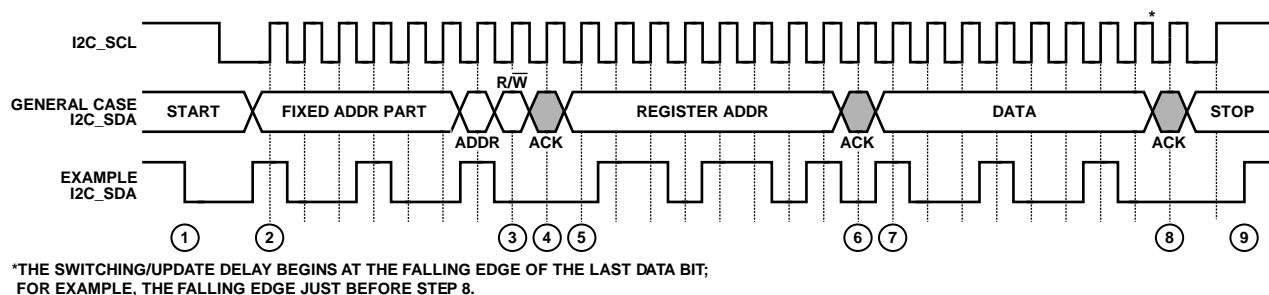

Figure 28. I2C Write Procedure
To write data to the ADV3002 register set, an I2C master (such as a microcontroller) needs to send the appropriate control signals to the ADV3002 slave device. The signals are controlled by the I2C master unless otherwise specified. For a diagram of the procedure, see Figure 28. The steps for a write procedure are as follows:
3. Send the write indicator bit (0).
- a. Send a stop condition (while holding the I2C\_SCL line high, pull the I2C\_SDA line high) and release control of the bus to end the transaction (shown in Figure 28).